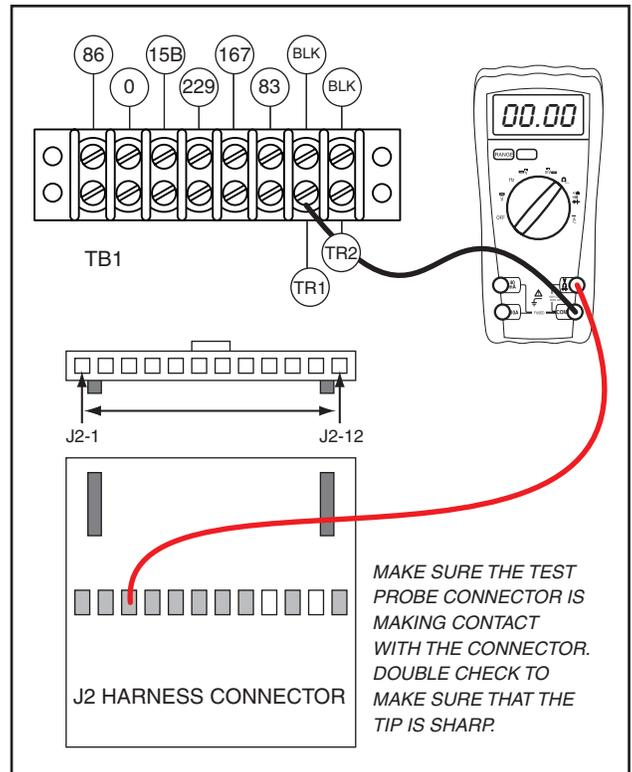

Figure 6-63. – Check TR1 Wiring
4. Connect one meter test lead to Wire TR1 at Terminal Block 1 (TB1). See Figure 6-63. Connect the other meter test lead to pin location J2-3 on the J2 Connector previously removed. Be careful not to damage the pin connectors with the test leads. Continuity should be measured.